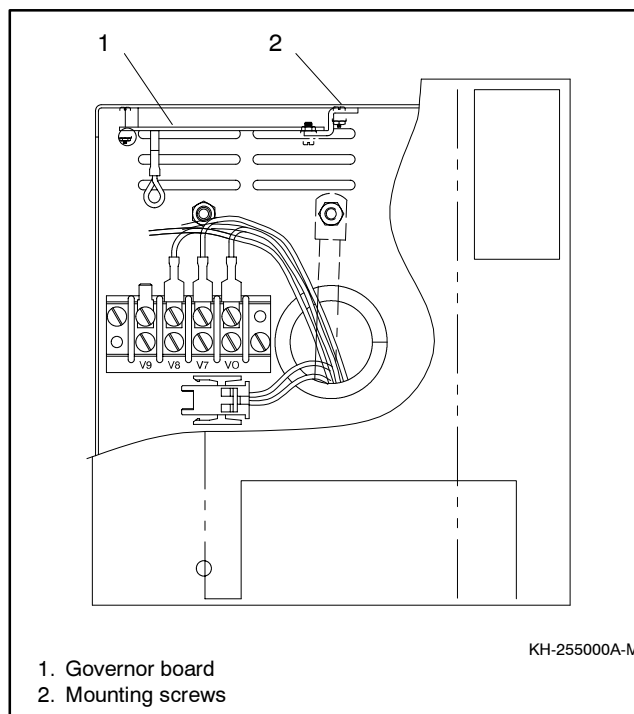

Figure 3 Governor Location (inside the generator set relay controller)
4. Remove the cover from the generator set controller and locate the governor. See Figure 3.